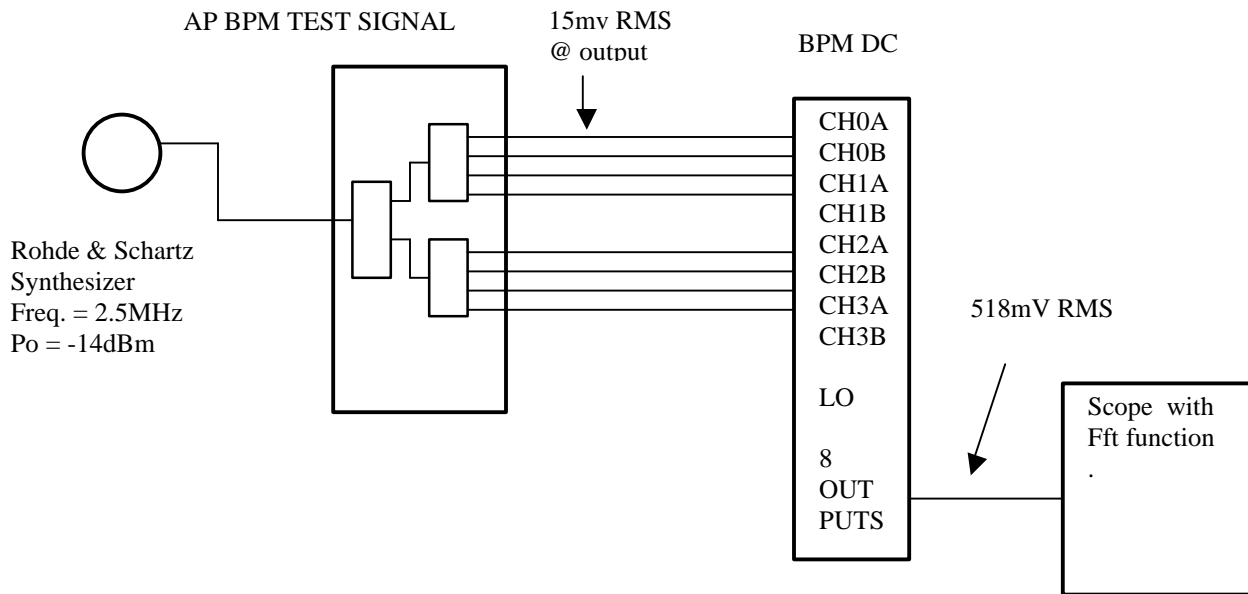

Figure 4
- 11.) Connect cables as shown in Figure 4.